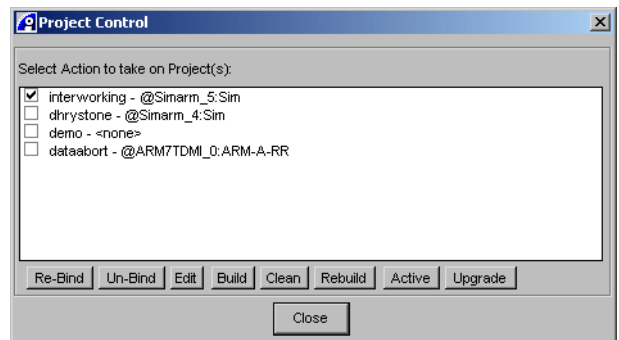

Figure 5-11 Working with the Project Control dialog box
- The Project Control dialog box works across all open projects and all active connections. An example is shown in Figure 5-11.
- By default, the active project is shown at the top of the open project list (see Figure 5-11 on page 5-31).